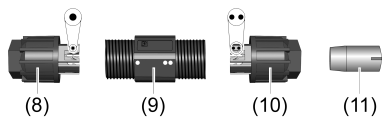

Figure 6: Connection set 100006006
- i** To seal the output cable, use a sealing plug (11) and union nut (10) with two-point marking from the connection set (Figure 6).
- i** To connect the supply line, use an insulator (9) and union nut (8) with one-point marking from the connection set (Figure 6).